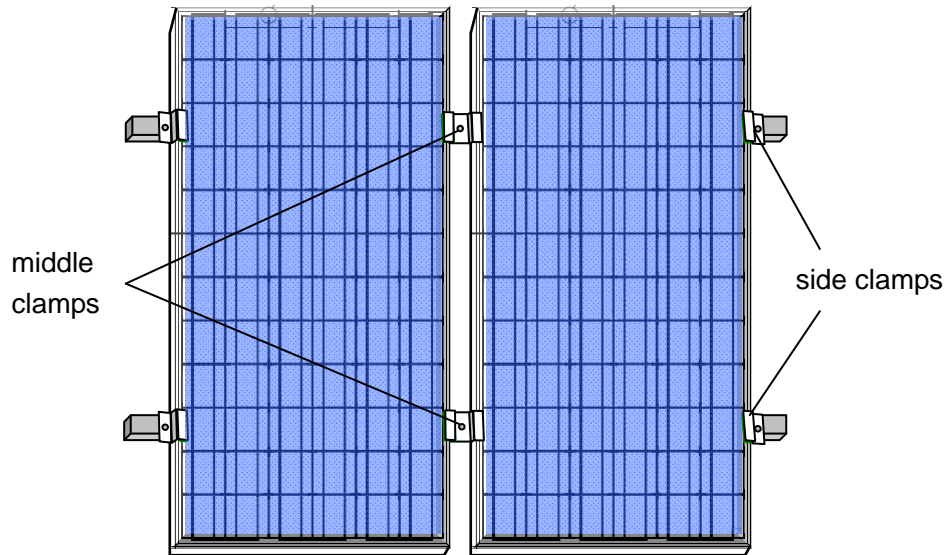

Figure 4. Placement of middle and side clamps on the modules.
3. Slide bolts through groove on the supporting bars next to the locations where the 4 clamps are to be fastened. The clamps are normally located $\frac{1}{4}$ of the frame length away from the shorter edge (as illustrated in figure 4).